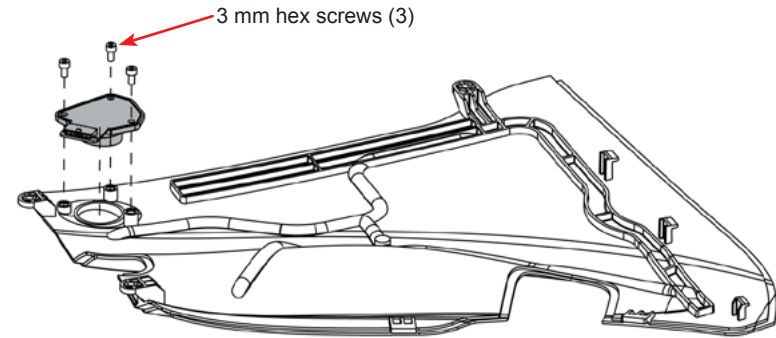

Figure 3-49 **Standby Switch Removal**
- 40.3 Remove three 3 mm hex screws securing PCB to panel (see Figure 3-49).